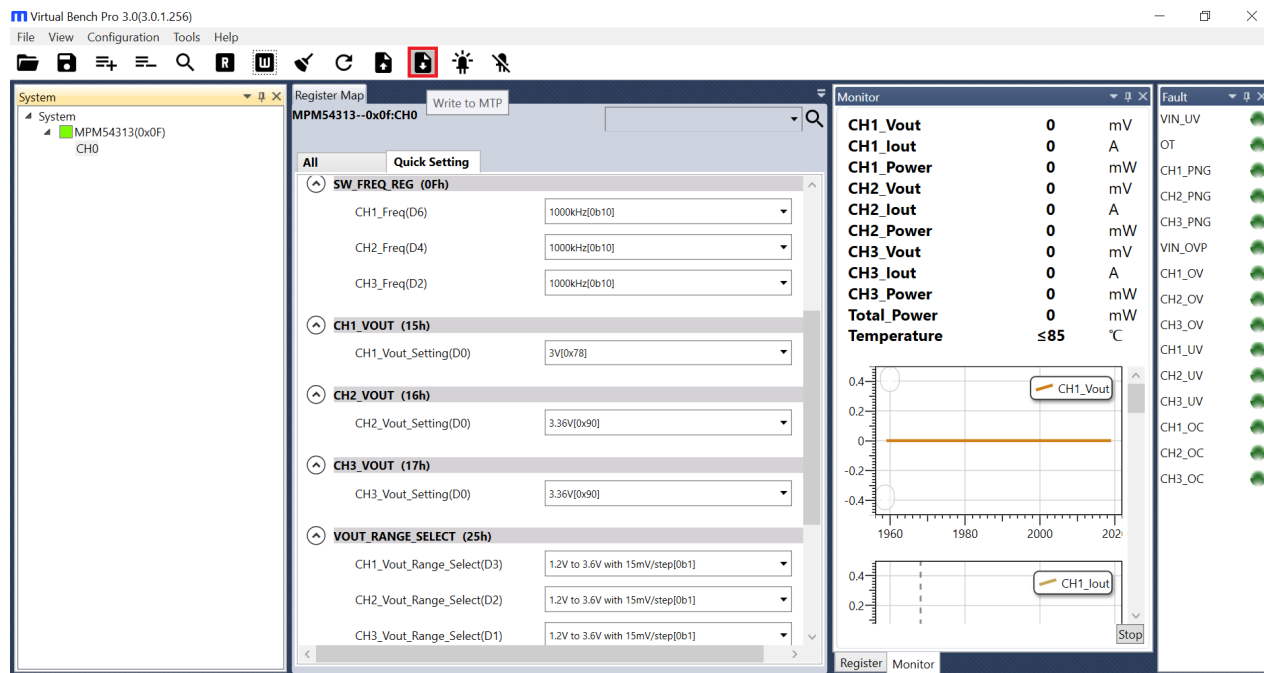

Figure 6: Writing to the MTP
7. Click the “Write to MTP” button and wait until the writing action completes (see Figure 6).